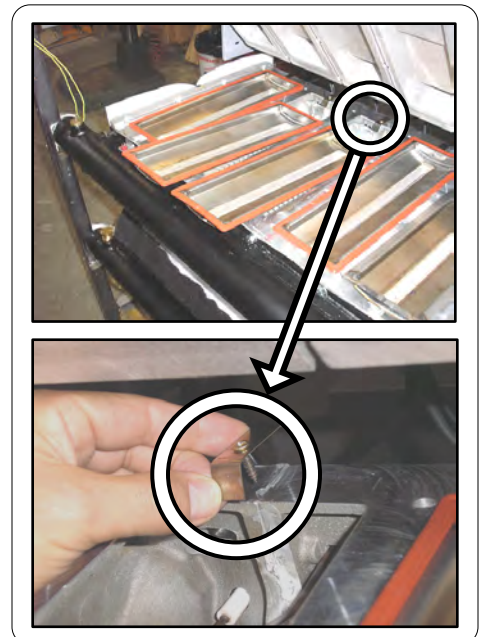

Figure 13: Remove Ground Tabs
1. If present, remove all the grounding tabs (**Figure 13**) at the rear of the burner modules (one per burner and screwed onto the boiler body) and discard. These are no longer needed as the new replacement gaskets are self-grounding. Use only the newer style gaskets as replacements.